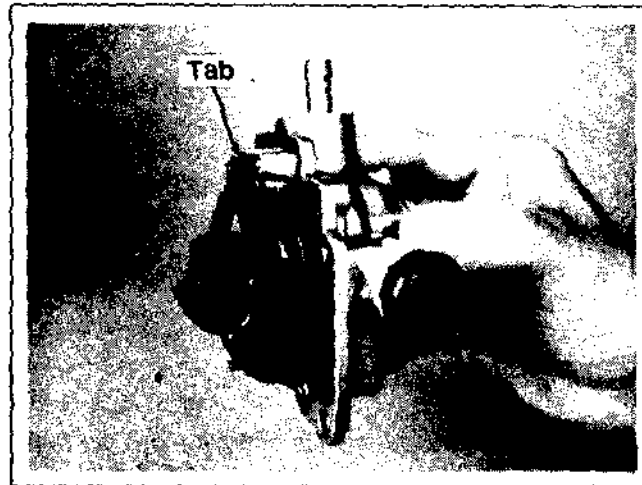

Figure 5-4. Carburetor Float Adjustment.
5. Hold the carburetor air horn so that the float assembly hangs vertically and rests lightly against the fuel inlet needle. The fuel inlet needle should be fully seated but the needle tip should not be depressed. See Figure 5-4.